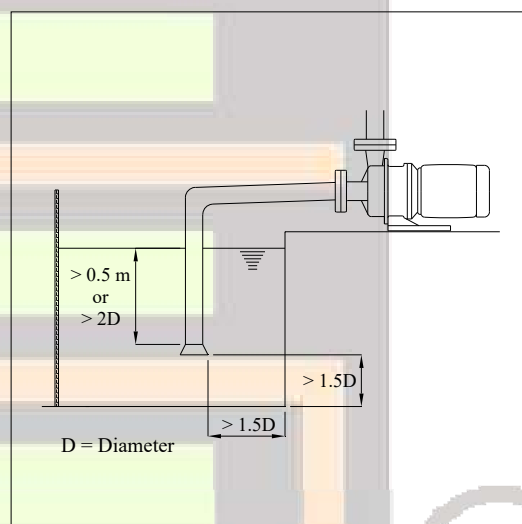

Fig. 4.4
Suction piping	(1) There should be at least a 1.5D distance between the suction pipe inlet and the closest tank wall to prevent circulation (see Fig. 4.4).
<p>(2)The submerge depth of the suction pipe inlet should be at least 0.5m or at least 2D below the liquid surface (see Fig. 4.4).</p> <p>(3)There should be a distance of at least 1.5D between the bottom of the tank and the suction pipe inlet (see Fig. 4.4).</p> <p>(4)If there are two or more inlet piping in the same tank, they should be placed at least 3D apart to prevent mutually disrupting each other's flow.</p>